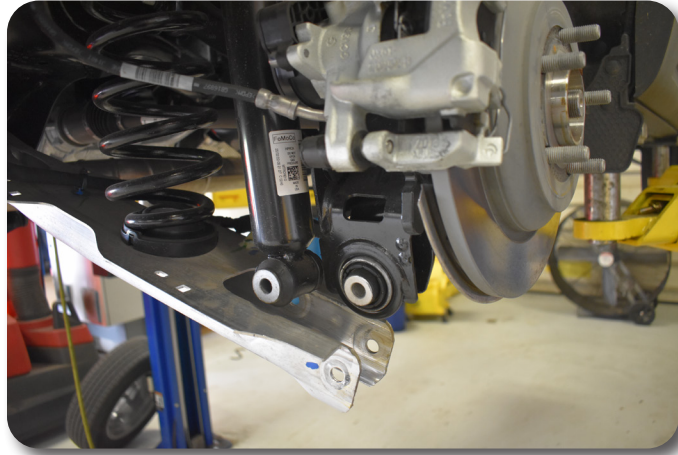

Figure 17
5. Once the lower control arm is released from the knuckle and shock, use one hand to pull the arm down far enough to remove the coil spring. Figure 17